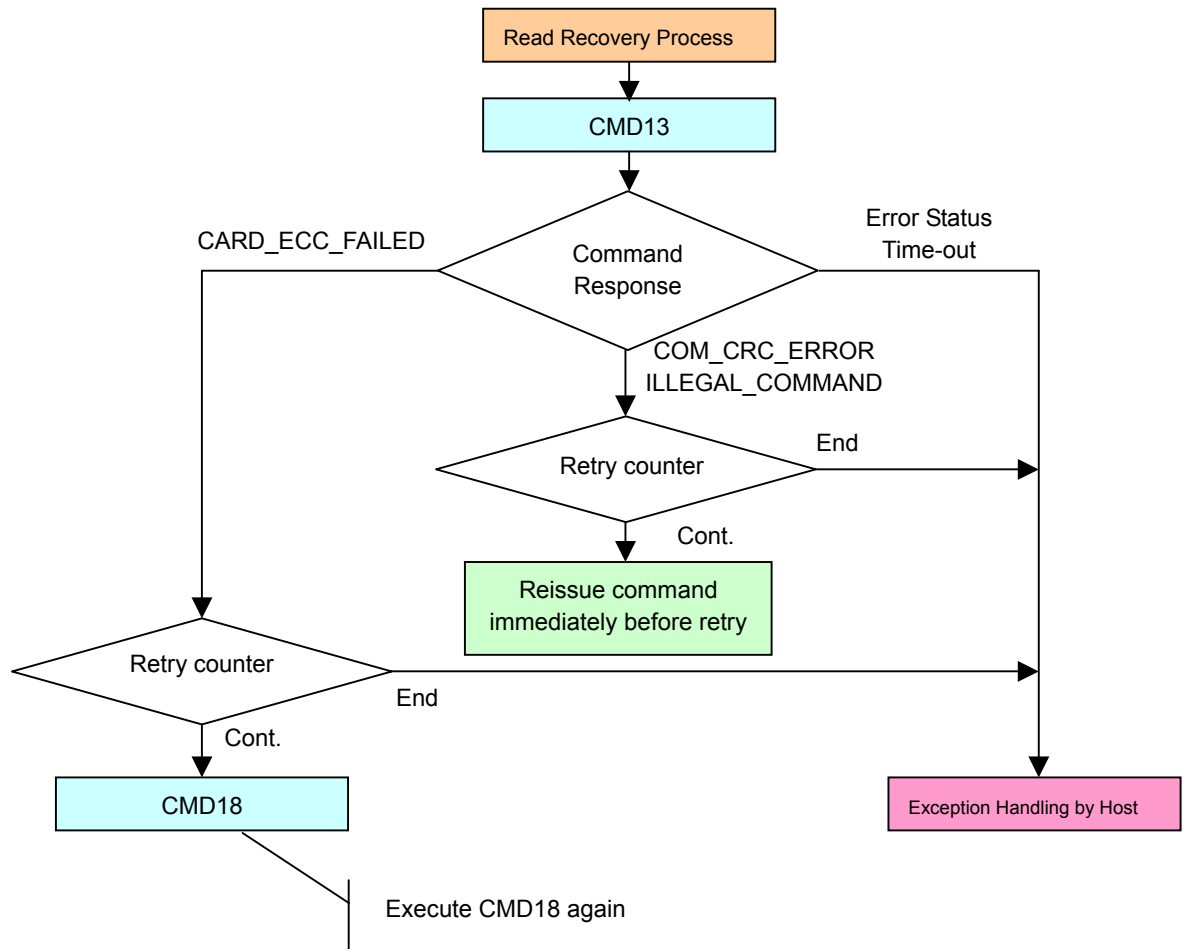

Figure 14 Read retry process flow of CMD18
- (4) Read recovery process shall follow Figure 14.